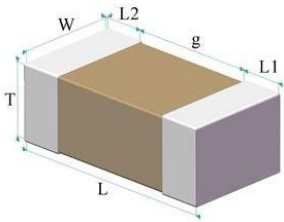

Fig.1 Structure & Dimension
| 2   | Size Code                                 | See Fig.1 and ② Size Code                                                                                                                                                                                          | Measuring by gages which precision is not less than 0.01 mm.                                                                                                                                                                                                                                                                                                                                                                                                                                      |